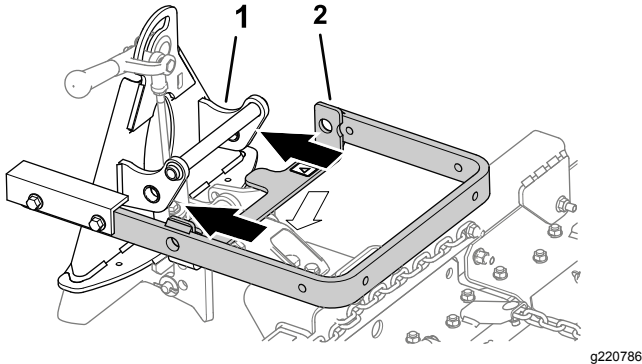
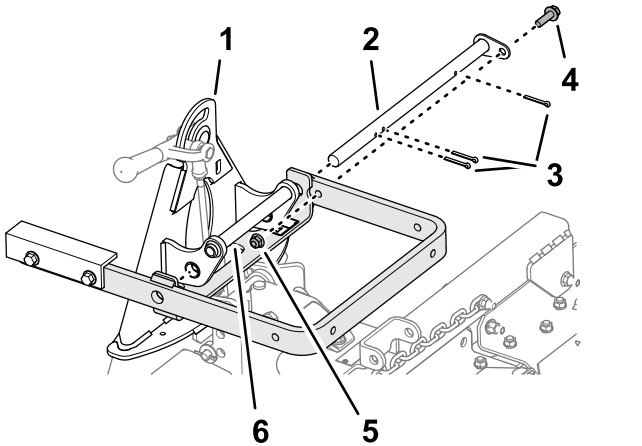

Figure 5
Figure 6
- Align the lift arm with the bracket on the attachment adapter (Figure 5) and connect them using the pivot bar as illustrated in Figure 6.
Note: When moving the attachment adapter, use the handle provided on the back of the adapter (Figure 5).
- Secure the pivot bar (Figure 6) with 3 cotter pins and a bolt (3/8 x 1-1/4 inches) and locknut (3/8 inch).